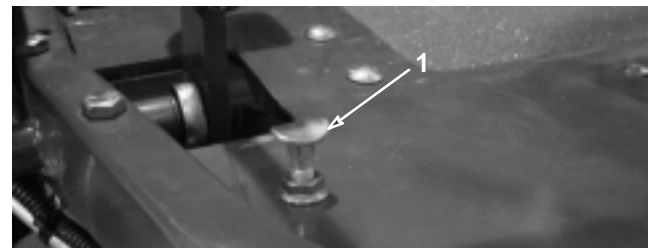

Figure 52
To obtain maximum transport speed, put the functional control lever in the transport position and press down on the traction pedal. If the pedal contacts the stop (Fig. 52) before tension is felt on the cable, an adjustment is required:
1. Put the functional control lever in the transport position and loosen the locknut securing the pedal stop to the floor plate (Fig. 52).